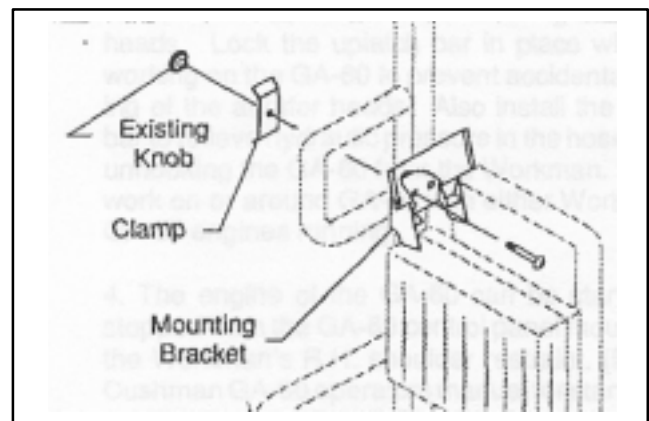

Figure 2
2. Mount the controller bracket to the R.H. shoulder restraint through the center hole on the control box bracket using a 3/8" x 1–1/4" carriage bolt (See Fig. 2)
3. Place the controller to the inside of the shoulder restraint and the clamp to the outside of the shoulder restraint. Assemble with plastic knob provided with the GA–60 controller. (See Fig. 2)